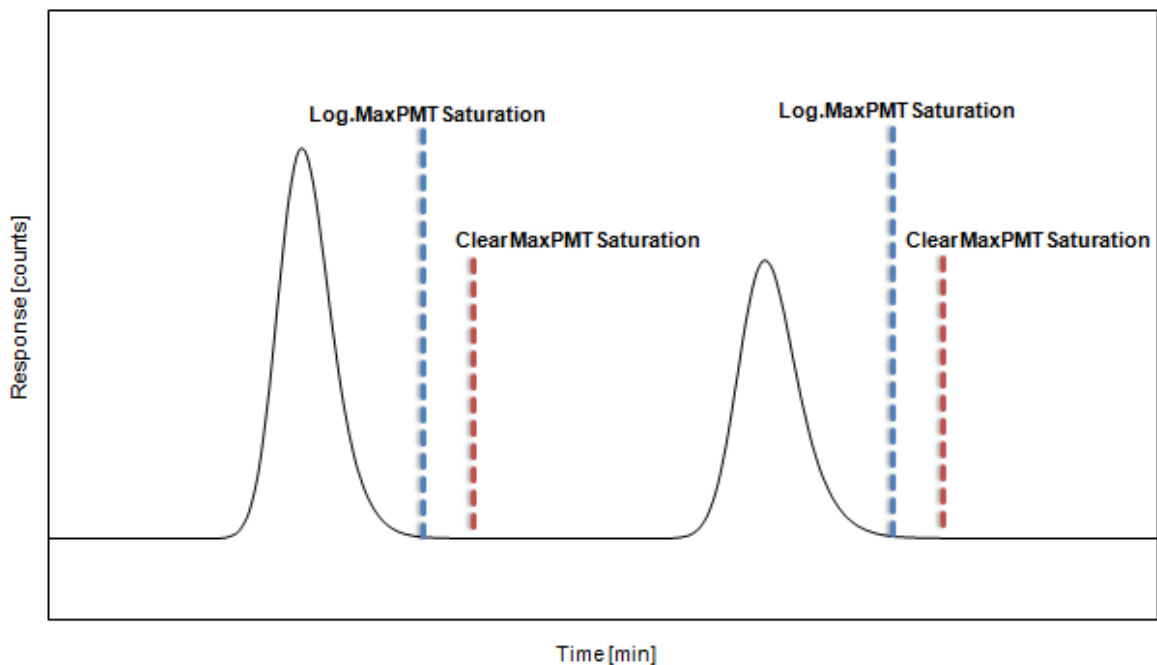

Fig. 36: Monitoring the MaxPMTSaturation parameter
2. Add a **Log** command for the **MaxPMTSaturation** property after the peak maximum of an expected peak (or group of peaks) to log the maximum saturation value at this time in the Audit Trail (→ Fig. 36).
3. Add a **ClearMaxPMTSaturation** command shortly after, before the next peak elutes, to reset the **MaxPMTSaturation** value to zero (→ Fig. 36).